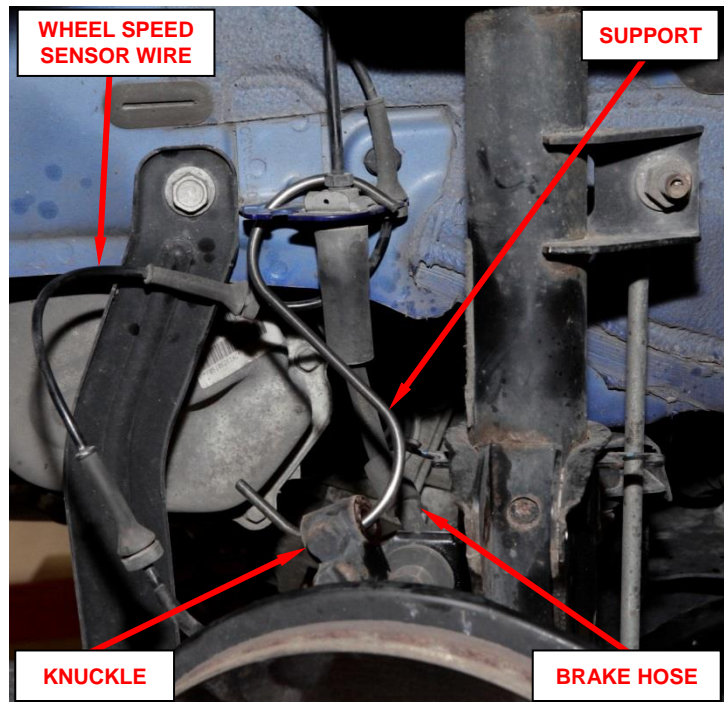

Figure 41 – Support Steering Knuckle
40. Support the steering knuckle to prevent any damage to the brake hose or wheel speed sensor wire during transmission removal (Figure 41).